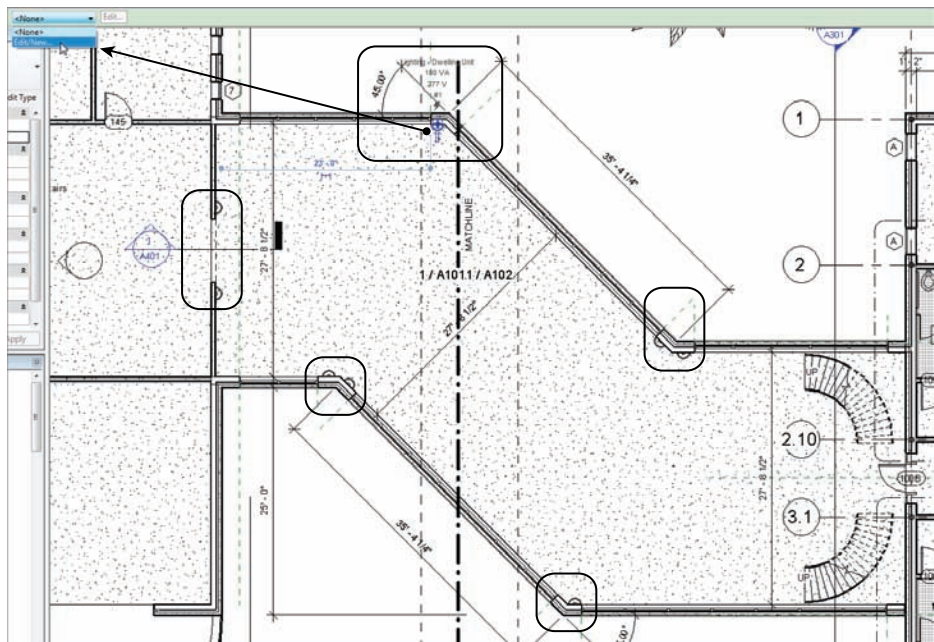

FIGURE 19.12 Adding the interior lighting to the link
11. Place some lights in the link, as shown in Figure 19.12.